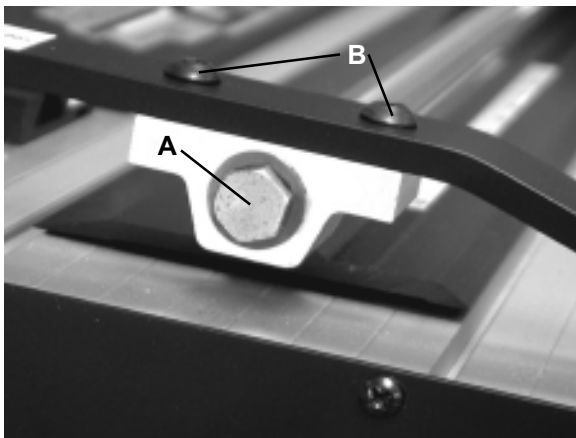

Figure 21
- a. Remove both blade **Magazines**. Remove the hex head bolt (**A**) from the lower end of the **Shaft**. Be sure to keep the spring washer with the bolt. See Figure 21.
- d. Slide the **Cutting Head** off the shaft. Do not lift the **Clamp Handle** any higher than clearance requires. Hold your hand beneath the **Cutting Head** to prevent the **Ball Bearing (C)** from falling to the floor. Re-assemble the **Cutting Head** in the reverse order.